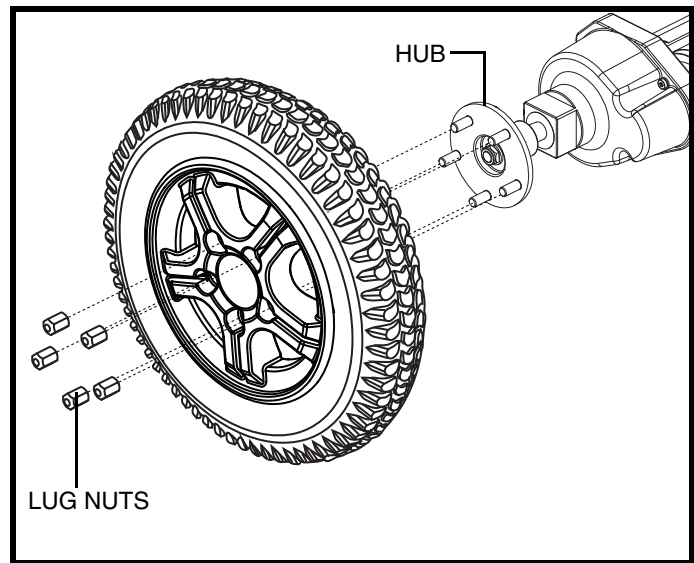

Figure 25. Drive Wheel Removal
4. Remove the drive wheel lug nuts from the hub. **See figure 25.**
9. Slide the wheel back onto the hub. **See figure 25.**